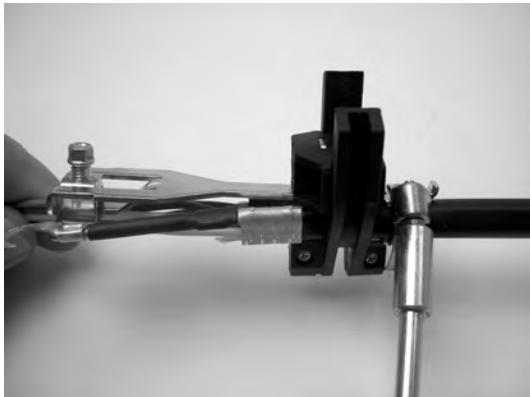

Fig 8
8. With appropriate size hose clamp handy, install both sections of the cable retention and SMB around the cable. Install and tighten the hose clamp such that the teeth fully seat into the cable assembly. Do not overtighten the clamp to the point that it deforms. A 1/4" nut driver is supplied in the kit to tighten the hose clamp (Fig. 8).
Note: *If a ground wire is present position the assembly as close to the ground as possible (towards the ring cut). The end of the strength member should be just inside the end of the strength member fork so the lug captures the end of the strength member. (Figure 8)*